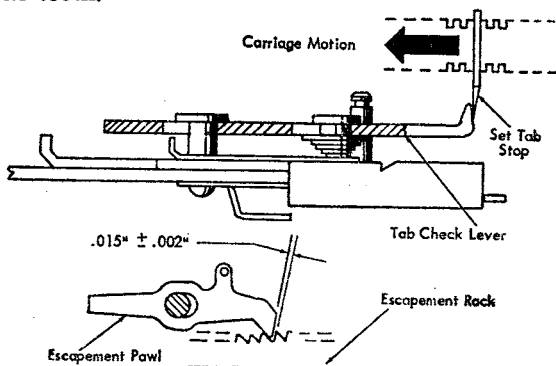

Figure 21. Tab Rack Adjustment, 4A
**A. LEFT TO RIGHT.** The tab rack should be adjusted left or right so that there is a clearance of  $.015'' \pm .002''$  between the working surfaces of the escapement pawl and an escapement rack tooth when the tab-check lever is in its extreme left position (Figure 21).
(1) Depress the tab cam with the power OFF and rotate the power roll by hand until the tab cam is near its high point.
(2) Allow the carriage to move to the left so that a set tab stop positions the tab-check lever to its extreme left position.
(3) Observe the clearance between the working surfaces of the escapement pawl and the escapement-rack tooth.